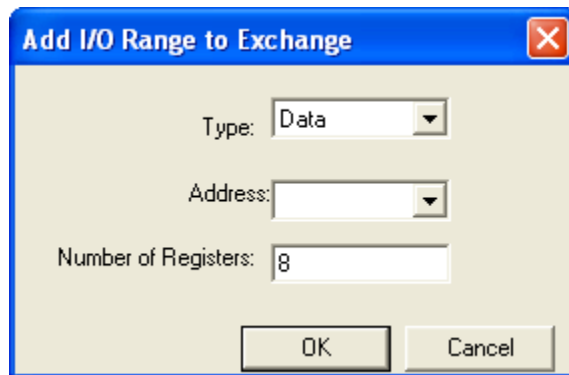

Figure 6.9– Produced Exchange 1 Data Block Definition – Node 1
3. Click on the **Add Range** button, in the EGD Configuration dialog, to define a Data Block for Produced Exchange 1. Then fill in the parameters, as shown in Figure 6.9 below, and click **OK**.